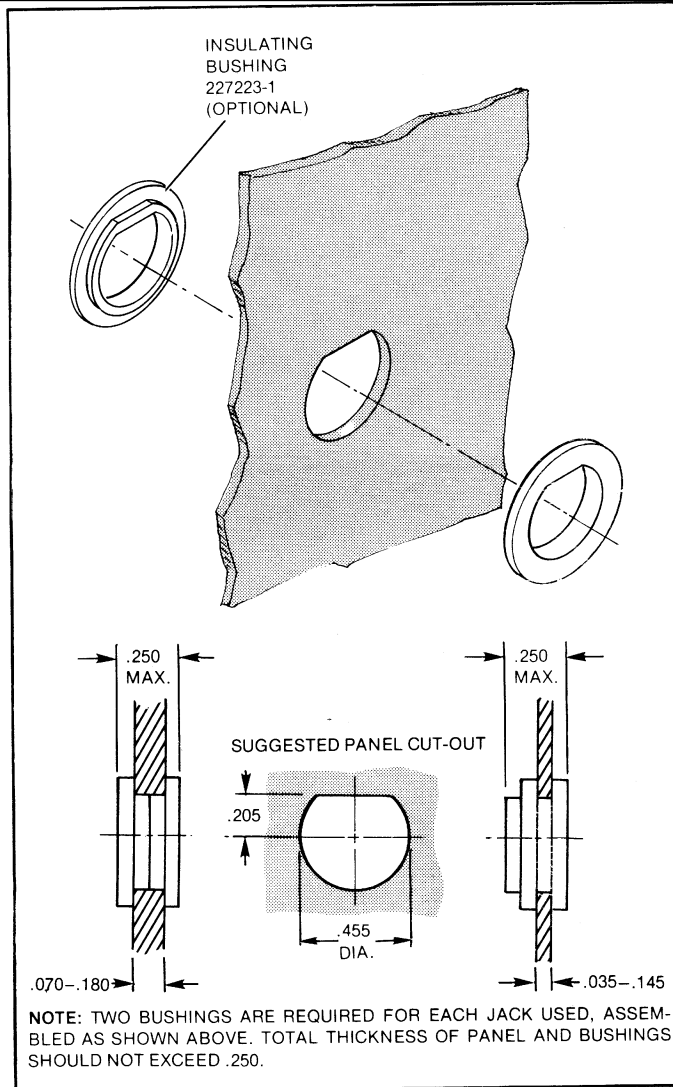

Figure 3
The assemblies containing a solder tab on the lockwasher are used with coaxial cables. For installations requiring ground isolation, the use of the Insulated Receptacle is recommended. Ground isolation can also be obtained with the Standard Receptacles by use of the insulating bushings, shown in Figure 3.
- (a) For installation requiring insulating bushings, panel cut-out shown in Figure 3.